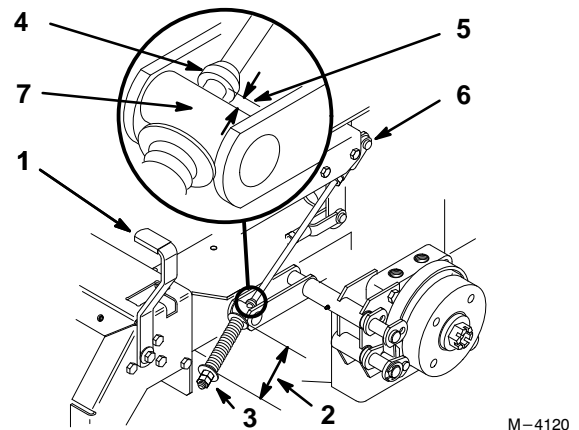

Figure 46
2. Measure the length of the spring. Measurement should be 2.75" (74 mm) between washers (Fig. 46).
3. If adjustment is necessary, loosen the jam nut below the spring and tighten the nut directly below the yoke (Fig. 46). Turn the nut until the correct measurement is obtained. Tighten the two nuts together and repeat on opposite side of unit.
6. Measure the distance between the trunnion roller and the collar on brake rod. Measurement should be 3/16"–1/4" (5–7 mm) (Fig. 46).
7. If adjustment is necessary, loosen the jam nut directly below the yoke. Turn the bottom adjusting nuts until the correct measurement is obtained (Fig. 46). Tighten jam nut at yoke